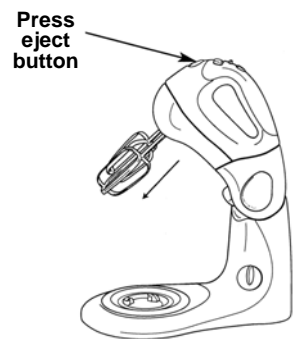

Fig. 1
- To release the beaters from the unit, press on the beater eject button on the front of the unit and they will pop out. (Fig. 1)
- To release the dough hooks from the unit, press on the beater eject button on the front of the unit and they will pop out. (Fig. 1)